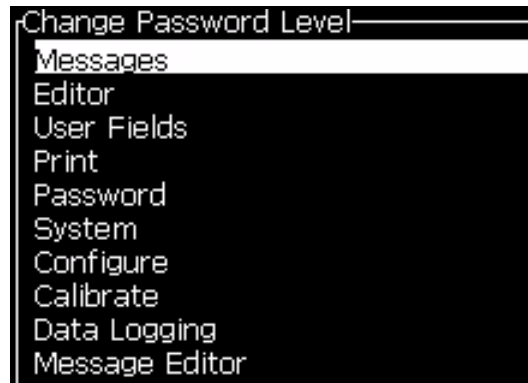

Figure 4-9: Change Password Level
- 1 Press *Alt + w* and select *Set Password Levels* (see Figure 4-8) to open the *Change Password Levels* screen (see Figure 4-9 on page 4-5).
- 2 Select the menu (see Figure 4-9 on page 4-5) that needs a change in the password level access and press the *Enter* key. The *Enter New Password Level* screen appears (see Figure 4-11 on page 4-6).